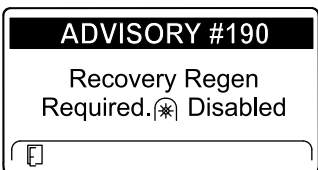

Figure 75
- Recovery regeneration required—power takeoff disabled ADVISORY #190 (Figure 75)